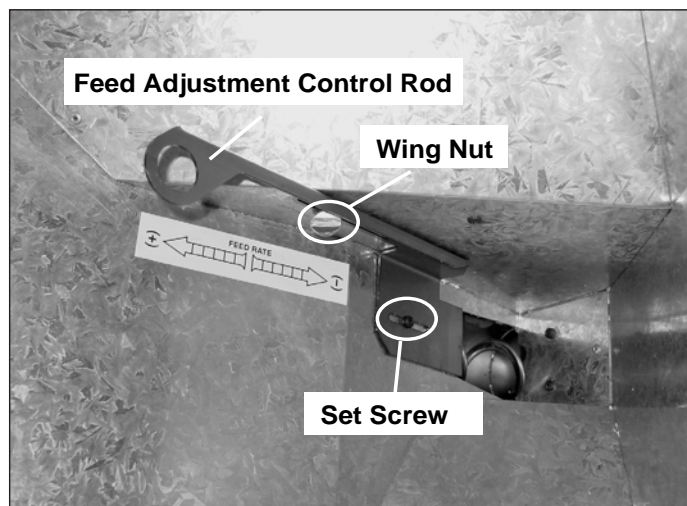

Figure 10.2
1. Loosen the wing screw. **Figure 10.2**